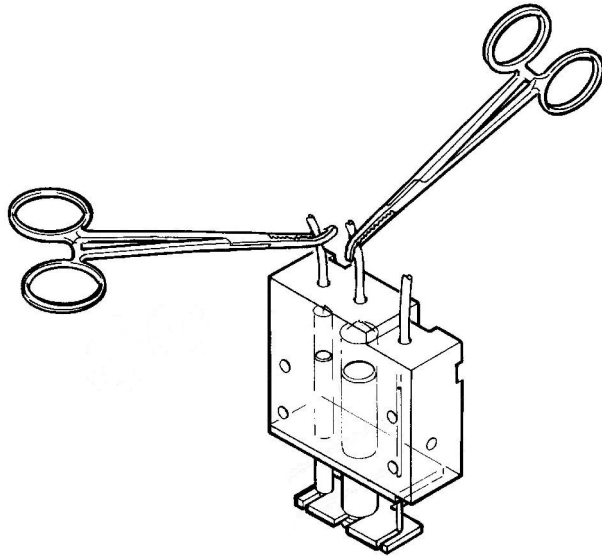

Fig.12: Liquid syringe
- ◆ Push the piston assy in the upper position and clamp the diluent and lyse tubing (See "Fig.12: Liquid syringe, page 9").